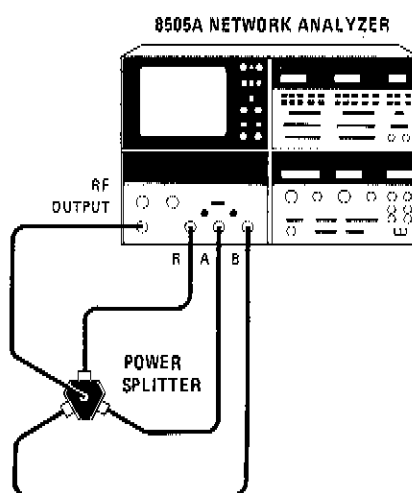

Figure B3-9. Receiver Frequency Response Troubleshooting Test Setup
- h. Connect RF OUT through the three way power splitter R, A and B channel inputs. (See Figure B3-9.) Center the CRT display for each channel input and check the maximum peak-to-peak power variation on the display as shown in Table B3-3.